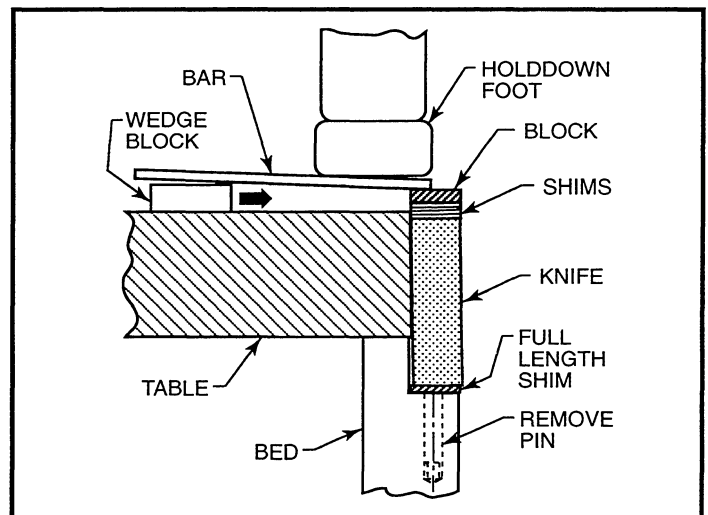
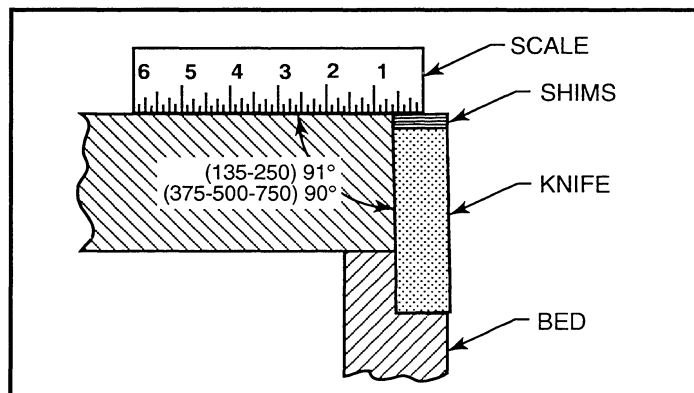

FIGURE 9-18 - Compress shims
FIGURE 9-19 - Check shim pack thickness
7. Compress the shims as shown in Figure 9-18 by moving the wedge block toward the knife. Check thickness of the shim pack with a scale as shown in Figure 9-19. The scale should touch shim pack at about the center of the knife. (135 and 250 only). The 375, 500 and 750 Series